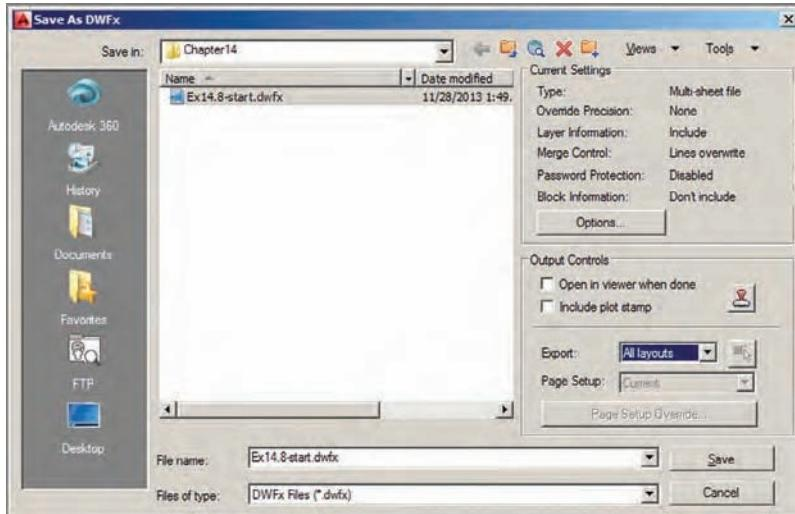

FIGURE 14.23 Save as DWFX
2. Select All Layouts from the Export drop-down menu in the Save As DWFX dialog box (see Figure 14.23). Click Save.